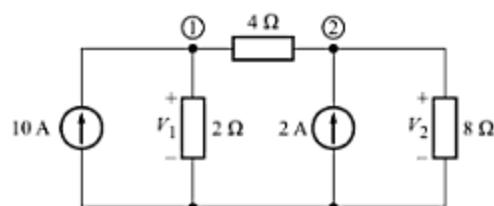

Fig. 3.78
19. Using nodal analysis, determine the voltages of nodes 1 and 2, for the circuit shown in Fig. 3.78.